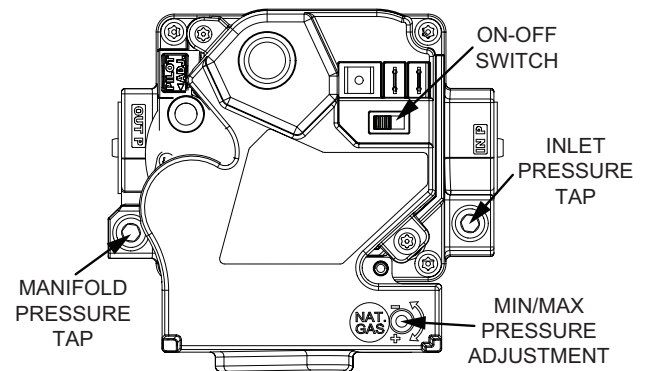

FIGURE 34
- 5 - Turn gas valve switch to **OFF**. See FIGURE 33 and FIGURE 34.
- 6 - Wait five (5) minutes to clear out any gas. If you then smell gas, **STOP!** Immediately call your gas supplier from a neighbor's phone. Follow the gas supplier's instructions. If you do not smell gas, go to the next step.
- 7 - Turn gas valve switch to **ON**. See FIGURE 33 and FIGURE 34.
For White Rodgers 36H54 and 36H27 valves (FIGURE 33 and FIGURE 34), supply pressure is accessed by removing 1/8" hex screw. Remove the 1/8" hex screw and install a 1/8" fitting with hose barb. Connect tubing from the barbed fitting and route to measuring device to measure supply pressure.
For White Rodgers 36H54 and 36H27 valves (FIGURE 33 and FIGURE 34), remove supply pressure barbed fitting and reinstall the 1/8" hex screw.
For White Rodgers 36H54 and 36H27 valves (FIGURE 33 and FIGURE 34) manifold pressure, remove the 1/8" hex screw, install 1/8" fitting with hose barb, connect hose from barb to "+" side of measuring device.